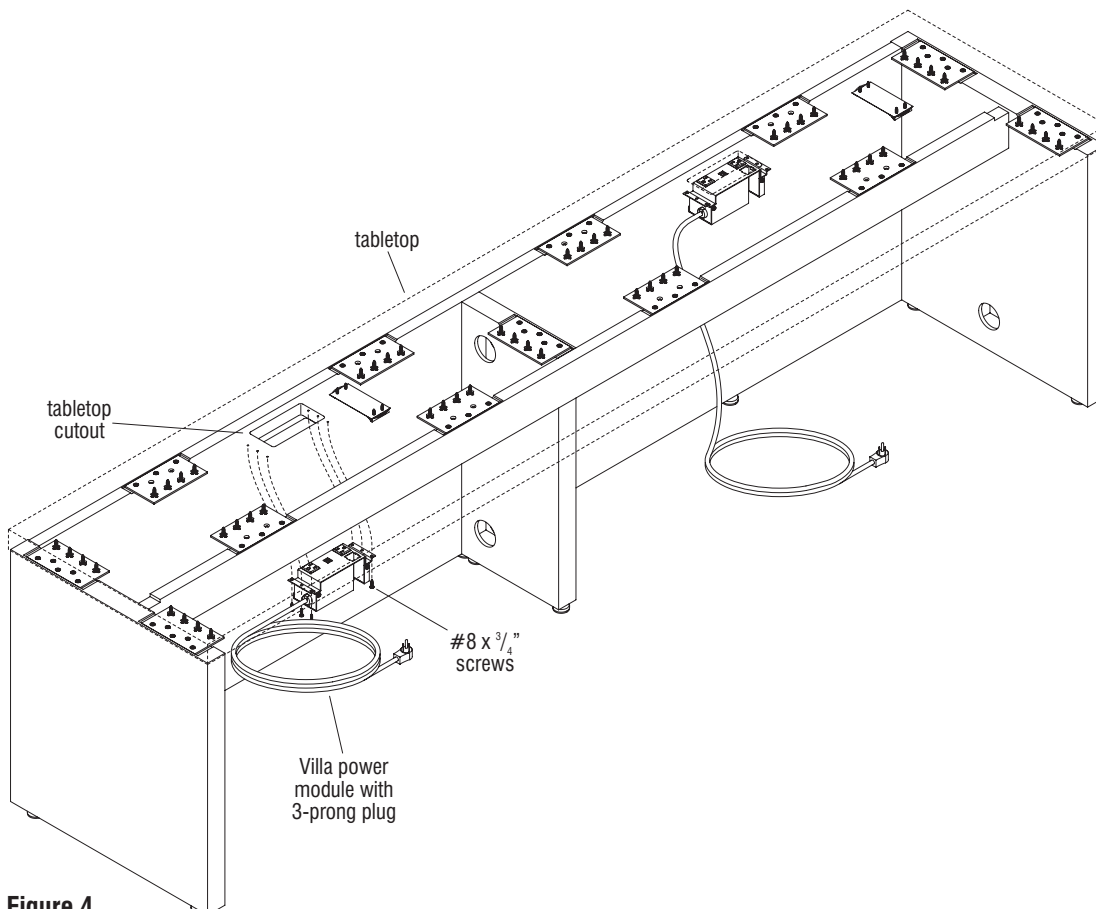

Figure 4
1. With one person underneath the table, position the Villa power module (with 3-prong plug) on the underside of the tabletop above the tabletop cutout. Orient the notch in the module to face the user side (Figure 4 & Detail M).
2. Align the six mounting holes on the power module with the six pre-drilled holes in the tabletop, then secure the bracket to the underside of the tabletop with the six #8 x 3/4" screws provided (Figure 4 & Detail M).